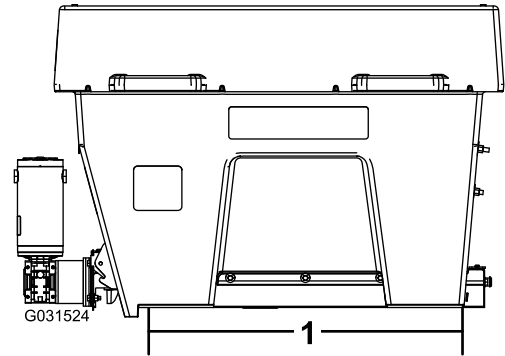

Figure 6
1. Using a 7/16-inch drill bit, mark and drill the holes for the D-rings as shown in Figure 6. Align the rear D-ring with the back of the rear spreader leg.